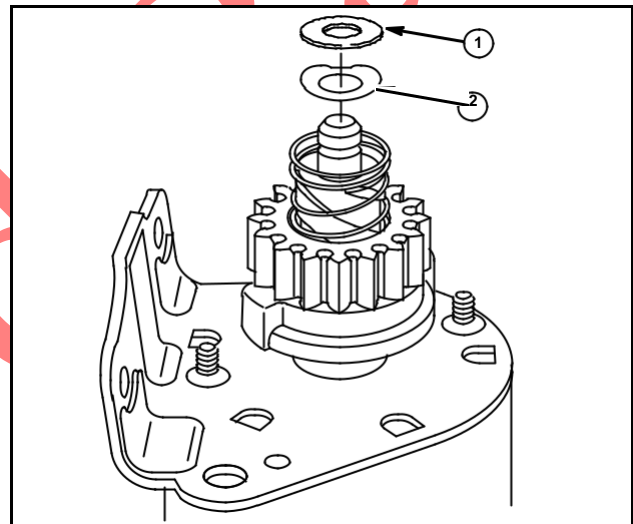

Fig. 61
3. Place spring washer (2) with concave side up, then place flat washer (1) on starter clutch spline, Fig. 61.